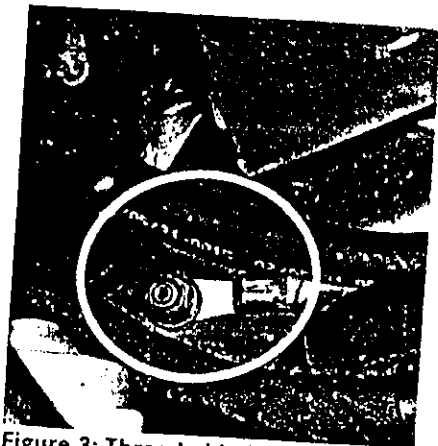

Figure 3: Threaded bolt of ground wiring harness
5. Detach the SBC hydraulic unit ground line at the threaded stud (see Figure 3).